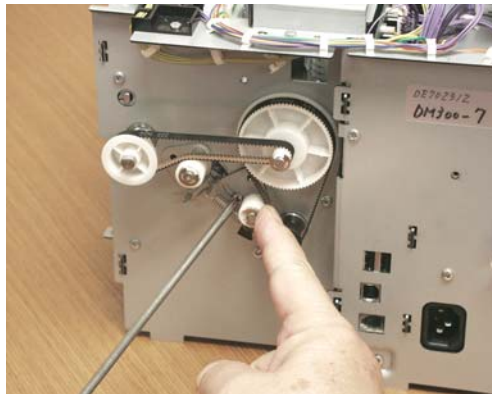
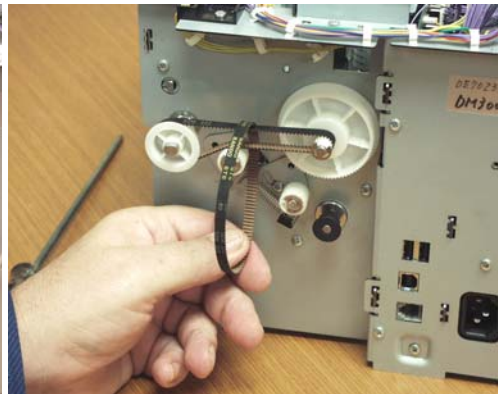

Figure 5-20 Loosen Belt Tensioner Slightly; Tighten in UP position.
Figure 5-21 Remove Belt from Drive Pulley
5. Slightly loosen belt tensioner. Press tensioner and tighten screw to relieve tension on timing belt (Figure 5-20). Remove belt as shown (Figure 5-21).